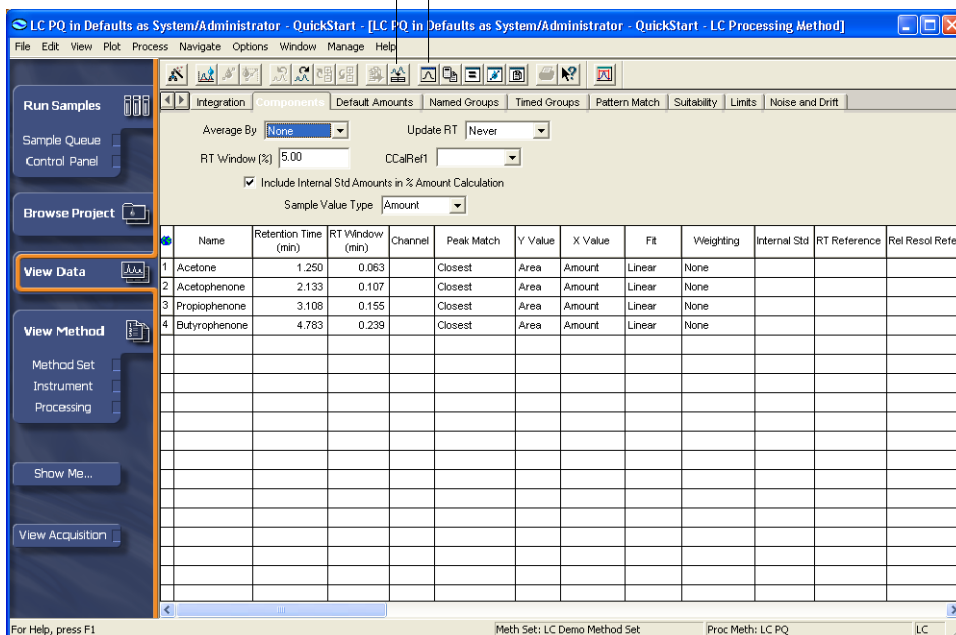

Figure 6-6 Processing Method Window, Components Tab
- Click the **Components** tab. The Components tab appears (Figure 6-6).
6. Click  (Fill from Results) to fill default calibration parameters in the table using peaks from the current integration. Change the peak names to the following (Figure 6-6):